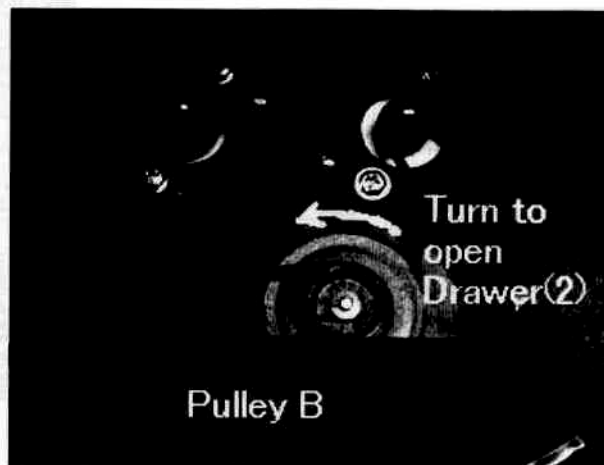
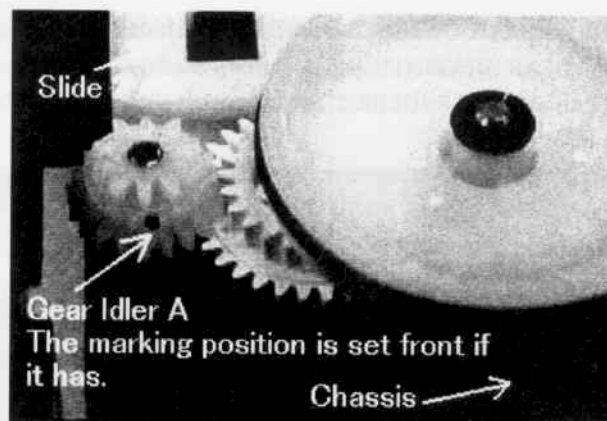

Fig.3
Fig. 11
- 1) Remove 6 SCREWS(115) from COVER(23).
- 2) Turn PULLEY B(32) anti-clockwise and pull DRAWER(2) block. The DRAWER block is easily pulled out. (See Fig.3)
10) When you assemble DRAWER block with CHASSIS, it is important that linear gears in CHASSIS gang well with GEAR IDLER A(39). While GEAR IDLER A isn't ganged well, turn PULLEY B(32) (Fig. 3) a bit and make them ganged. (Take care not to turn it much. GEAR IDLER A should be in ± 45 degrees from the center.) (See Fig. 11)
11) Push in two hooks at the both sides as they sound click. (You may fix the right side hooks first before you move Drawer block inside in item 9).
12) Put COVER(23) and mount six SCREWS(115).